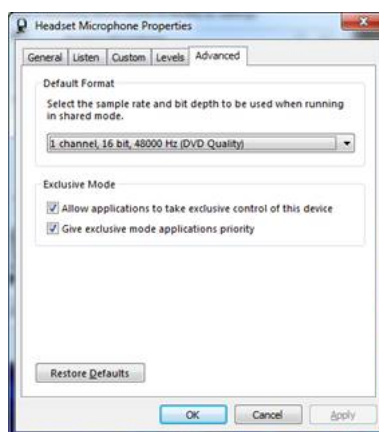

Figure 6—Headset Microphone Advanced Properties Settings.
Step 8: double click the Headset Microphone device in the Playback Tab to open Headset Microphone Properties, select the Advanced Tab as shown in Figure 6, and adjust the Default Format to 1-channel, 16-bit, 48000 Hz (DVD Quality). Also check both boxes under "Exclusive Mode".